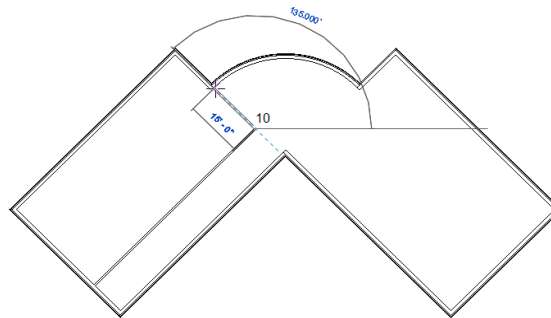

Figure 3-71 Sketching the second interior wall
5. Start the next wall from the endpoint of the last wall by clicking on its endpoint. Move the cursor upward toward the left such that it subtends an angle of 135 degrees with the horizontal and reaches the exterior wall displaying the **Nearest** object snap, as shown in Figure 3-71. Click to specify the endpoint of the wall.
6. Similarly, to start the next interior wall, bring the cursor close to the starting point of the last created wall (marked as 10), refer to Figure 3-71. Then, move the cursor away along the center of the wall that is connected to the last created wall until the temporary dimension appears. When the temporary dimension appears, enter the value **10'0"(3048 mm)** and press ENTER to specify the start point of the wall.